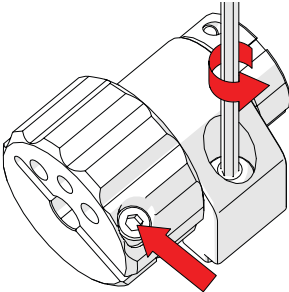

Fig. 130 - Loosen screws
1. Ensure the lock screw and the hexagonal screw in the main knob are loose (*Fig. 130*).